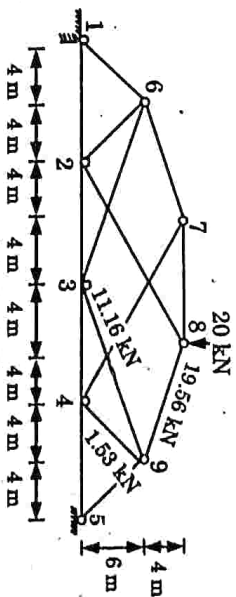

Fig. 2.13.1.
**Que 2.13:** Determine the forces produced by the applied loads in members 4-9, 3-9, and 8-9 of the complex truss shown in Fig. 2.13.1.